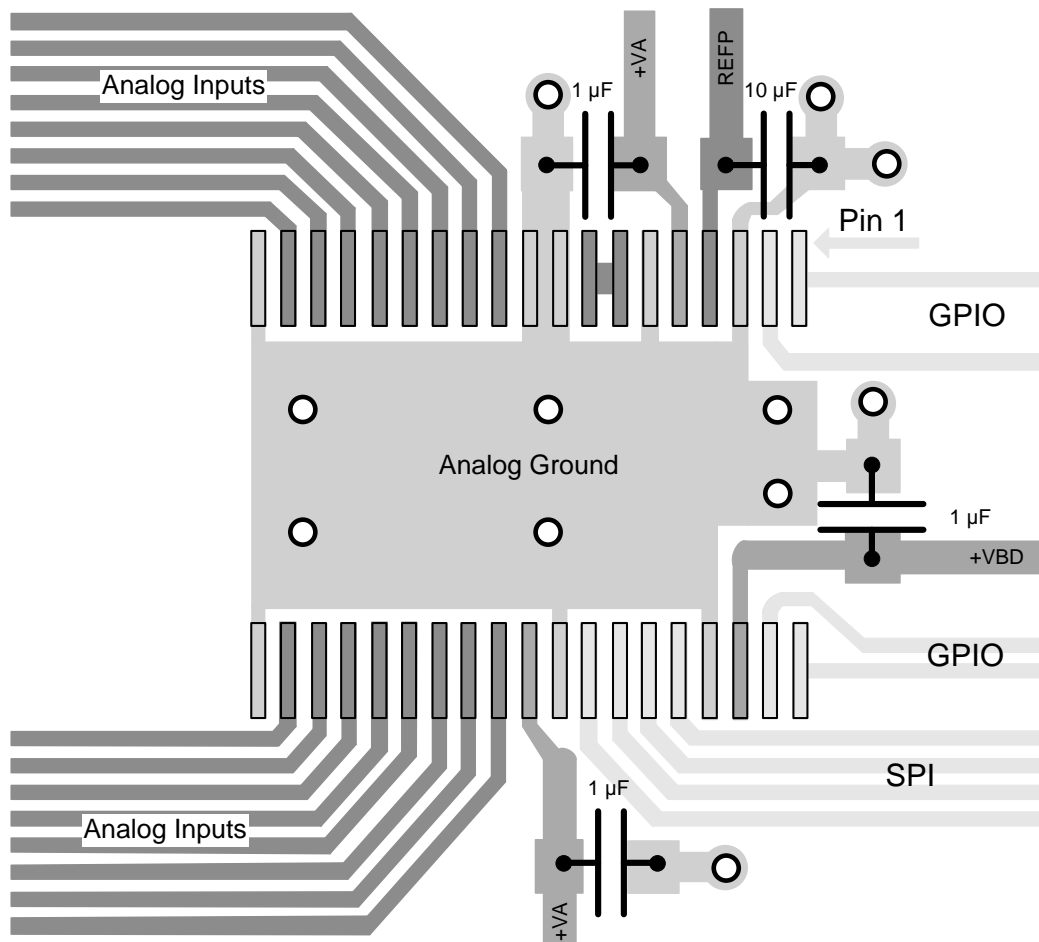

Figure 66. Recommended Layout
- The power sources must be clean and properly decoupled by placing a capacitor close to each of the three supply pins, as shown in Figure 66. To minimize ground inductance, ensure that each capacitor ground pin is connected to a grounding via by a very short and thick trace.
- The REFP pin requires a 10- $\mu\text{F}$  ceramic capacitor to meet performance specifications. Place the capacitor directly next to the device. This capacitor ground pin must be routed to the REFM pin by a very short trace, as shown in Figure 66.
The full-power bandwidth of the converter makes the ADC sensitive to high frequencies in digital lines. Organize components in the PCB by keeping digital lines apart from the analog signal paths. This design configuration is critical to minimize crosstalk. For example, in Figure 66, input drivers are expected to be on the left of the converter and the microcontroller on the right.